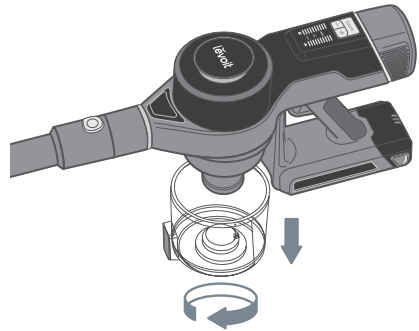

Figure 2.8
2. Hold the dust bin over a trash can and press the Dust Bin Release Button [Figure 2.8]. Use caution, as the door will automatically open when the release button is pushed.